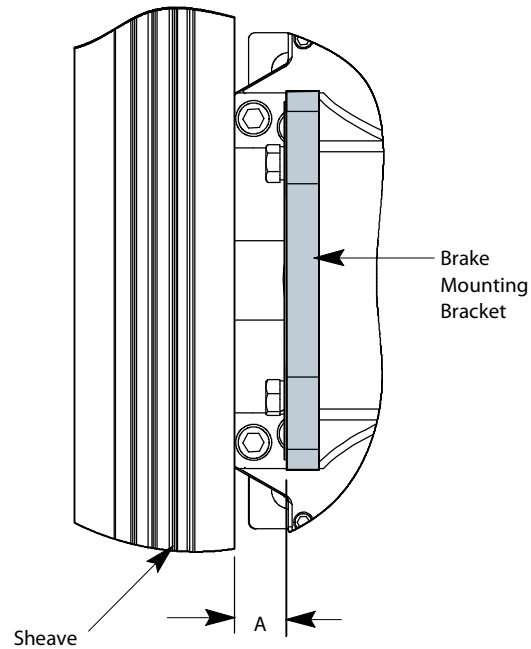

Figure 8 - Brake Mounting Bracket to Sheave Dimension
4. Use four (4) M16 x 60 mm bolts and four (4) M16 lockwashers to install the brake mount to the machine. See Figure 8.
8. Measure the distance from the sheave to the machined surface of the brake mounting bracket. Determine and record the quantity of mounting bracket shims that are required. See Figure 8 and Table 2.